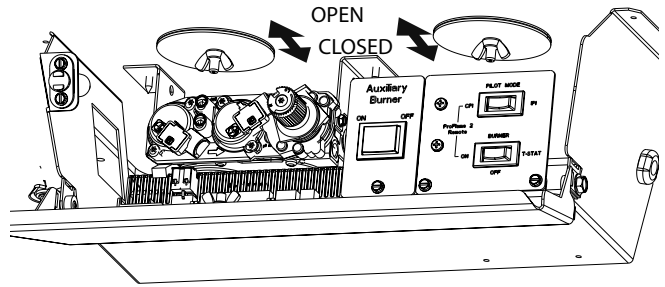

Figure 15.1. Pull the shutter forward to increase primary air. Push back to restrict air.
1. Reach under the stove and loosen the wingnuts. The RIGHT shutter controls the REAR Burner. The LEFT shutter controls the FRONT Burner. See fig. 15.1. Slide the wing nut studs forward toward yourself tpen the air shutters and back to provide less air. Before making any adjustments, start at the factory shutter settings: